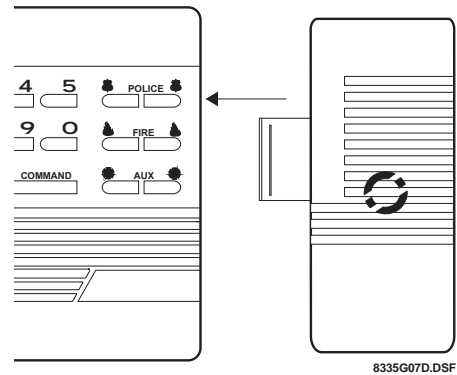

Figure 7. Attaching the Siren to the Panel
- 5) Attach the siren to the Panel by inserting the exposed part of the bayonet into the slot on the right side of the Panel (see Figure 7).